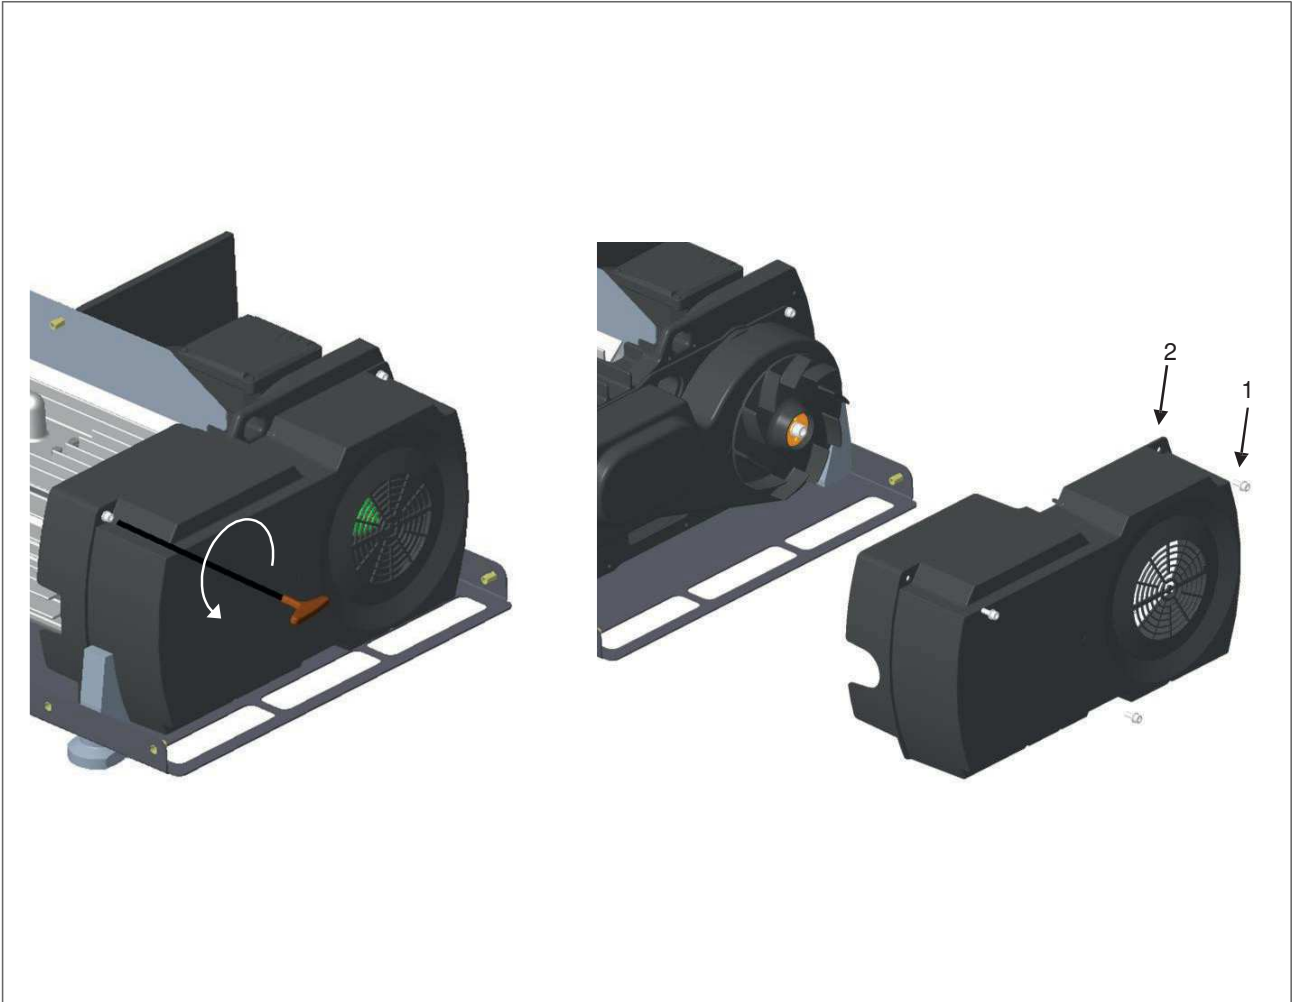

Figure 2 – Drive enclosure removal
1. Using 5mm Allen key, remove the 3 screws (Figure 2, item 1) which secure drive enclosure and carefully separate the drive enclosure (Figure 2, item 2) from pump.